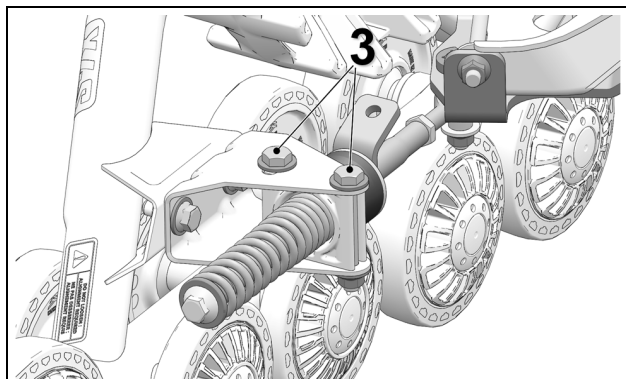

Figure 12
- Re-tighten anti-rotation bracket bolts (3) to 50 N•m [37 lb-ft] of torque. See Figure 12.